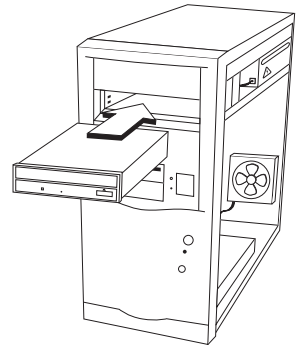
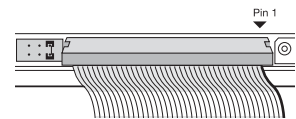

Fig. 5
Fig. 6
- ⑦ Slide the NEC DVD drive into the empty drive bay, from the front of the computer. [Fig. 5]
- ⑧ Mount the drive to your computer's chassis using the existing mounting hardware, or the provided screws (refer to your computer's documentation).
- ⑨ Connect the interface cable, making sure the red stripe matches Pin 1 on the drive. If your drive is set to MASTER, connect it to the endmost connector on the cable. [Fig. 6]